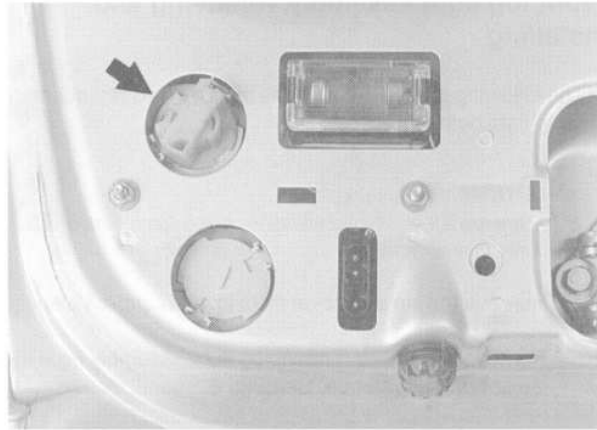

Fig. 10. To remove tail light bulb socket (**arrow**), twist 90° and pull out of lens assembly.
2. Twist bulb housing 90° and remove bulb socket from rear of tail light lens assembly. See Fig. 10.